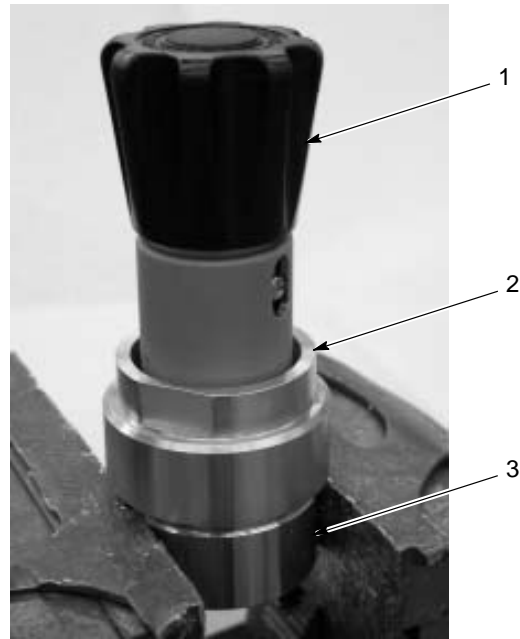

Figure 2 Body Flats in Vise
4. See Figure 2. Place the regulator body (3) flats in a soft-jawed vise. Rotate the hand knob (1) in the DECREASE direction all the way to the stop.